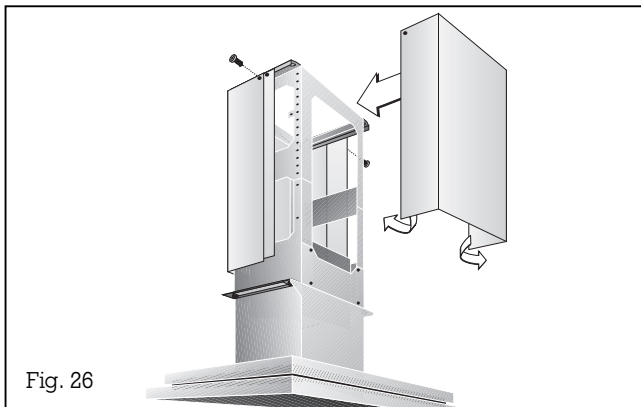

Fig. 26
13. Secure the top chimney duct unit which has no magnetic strips with 2 screws on the top of the support frame (Fig. 26).
14. The second top chimney duct (which has magnetic strips) should be slightly bent open, in order to slide over the first chimney duct easily. Adjust (leave no gap) and fix with 2 screws to the top of the support frame (Fig. 26).